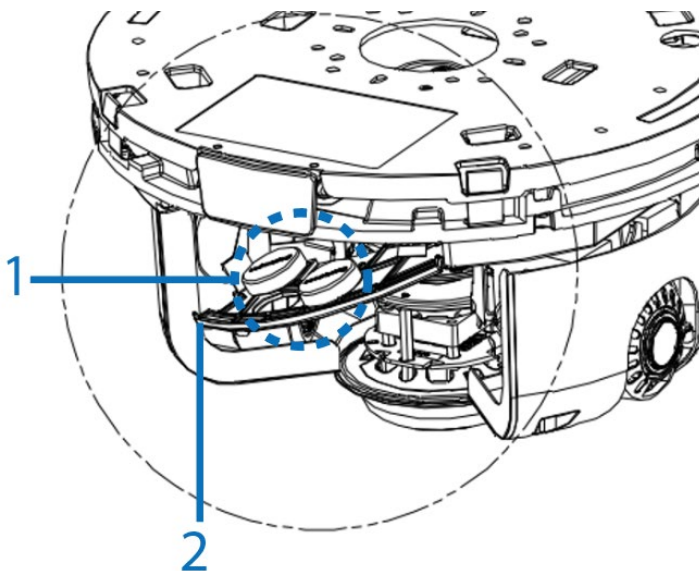

Figure 10
16. Pull the cover (2) (Figure 10) downward.
17. Insert the two new desiccant bags (1) (Figure 10) onto the cover and then push the cover upward to securely close the cover.